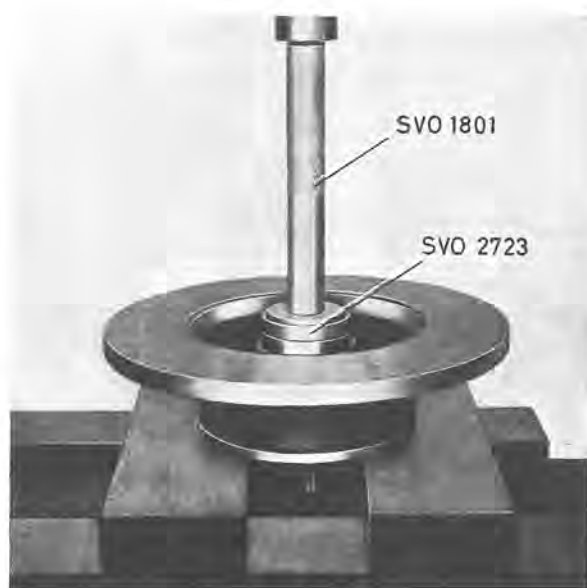

Fig. 6-20. Fitting oil seal
1. Place the inner bearing in position in the hub and press in the oil seal with tool SVO 2723 and standard handle tool SVO 1801. See Fig. 6-20.